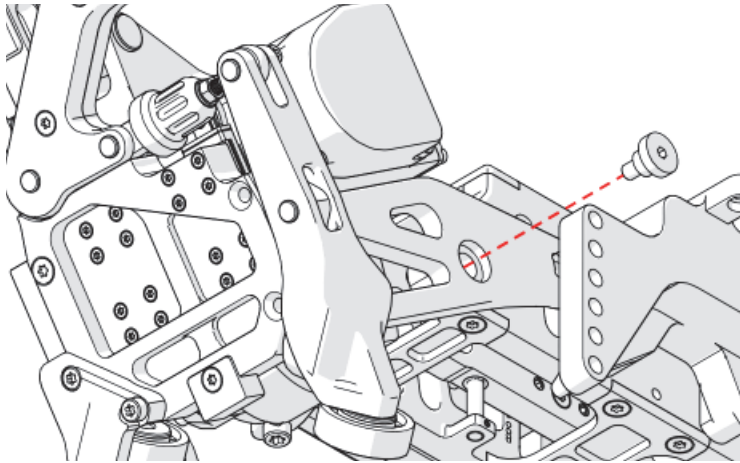

Figure 2-9 Remove shoulder bolt
10. Using a 4mm hex tool, remove the shoulder bolt from the motor carriage arm (see Figure 2-9 on page 90).
3. Using a 4mm hex driver, remove the shoulder bolt from the motor carriage (see Figure 2-9 on page 90).